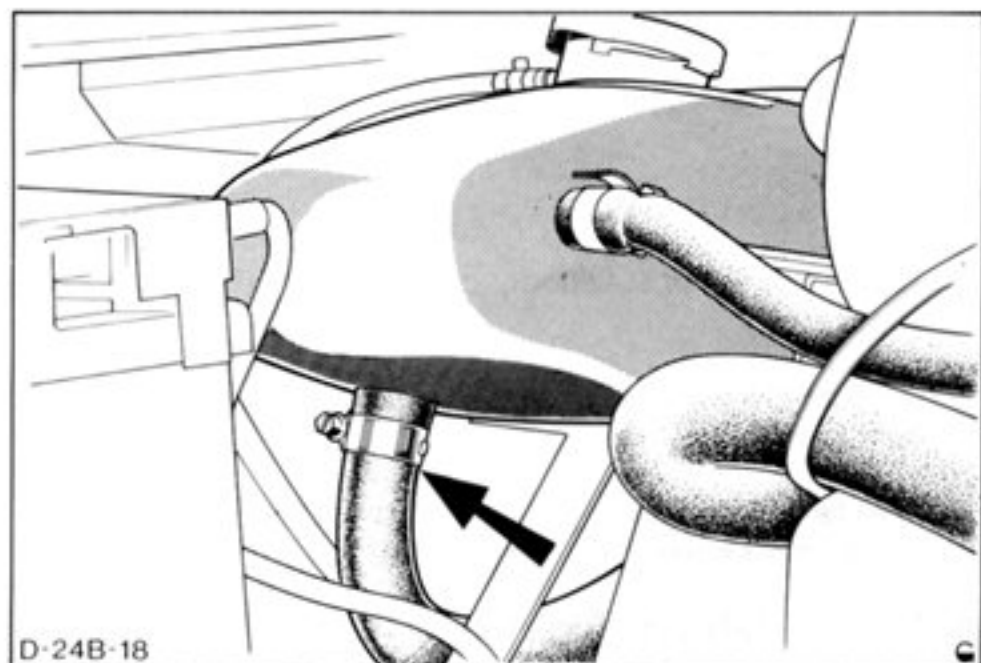

Fig.31. Hose to tank connection.
8. Fit hose onto tank and secure clamp, Fig.31.